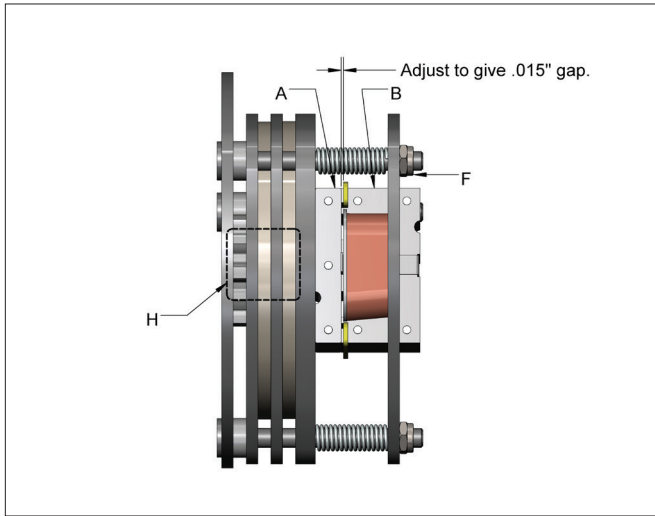

FIGURE 5-2. MOTOR BRAKE ADJUSTMENT
- Referring to Figure 5-2, check the gap between armature (A) and frame (B). The correct gap is .015".
- Adjust the gap by turning the three lock nuts (F) and check with a feeler gauge to be sure the gap is the same on both ends of the solenoid.